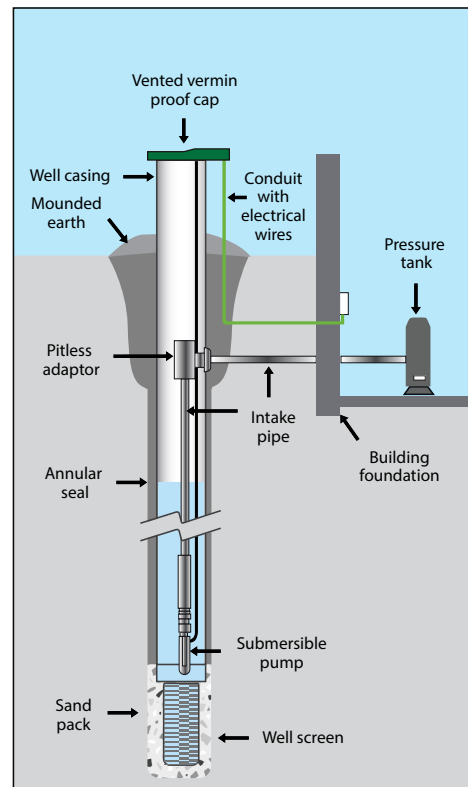

Figure 5. Small diameter drilled well.
**Drilled wells**, or small diameter wells, are made using a rotary drilling rig, which uses a drill bit and circulating drilling mud (Figure 5). Well casings are generally four to six inches (10 to 15 centimetres) in diameter and can be made of steel or plastic with a stainless-steel screen at the bottom within the water bearing zone. A larger casing may be used to accommodate a larger pump for higher volumes of water. The annular space along the casing, with exception of the bottom where the well screen is located, should be sealed with a bentonite grout and cement mixture to prevent surface water contamination into the aquifer. Like bored wells, the annulus adjacent to the well screen is filled with a sand pack.